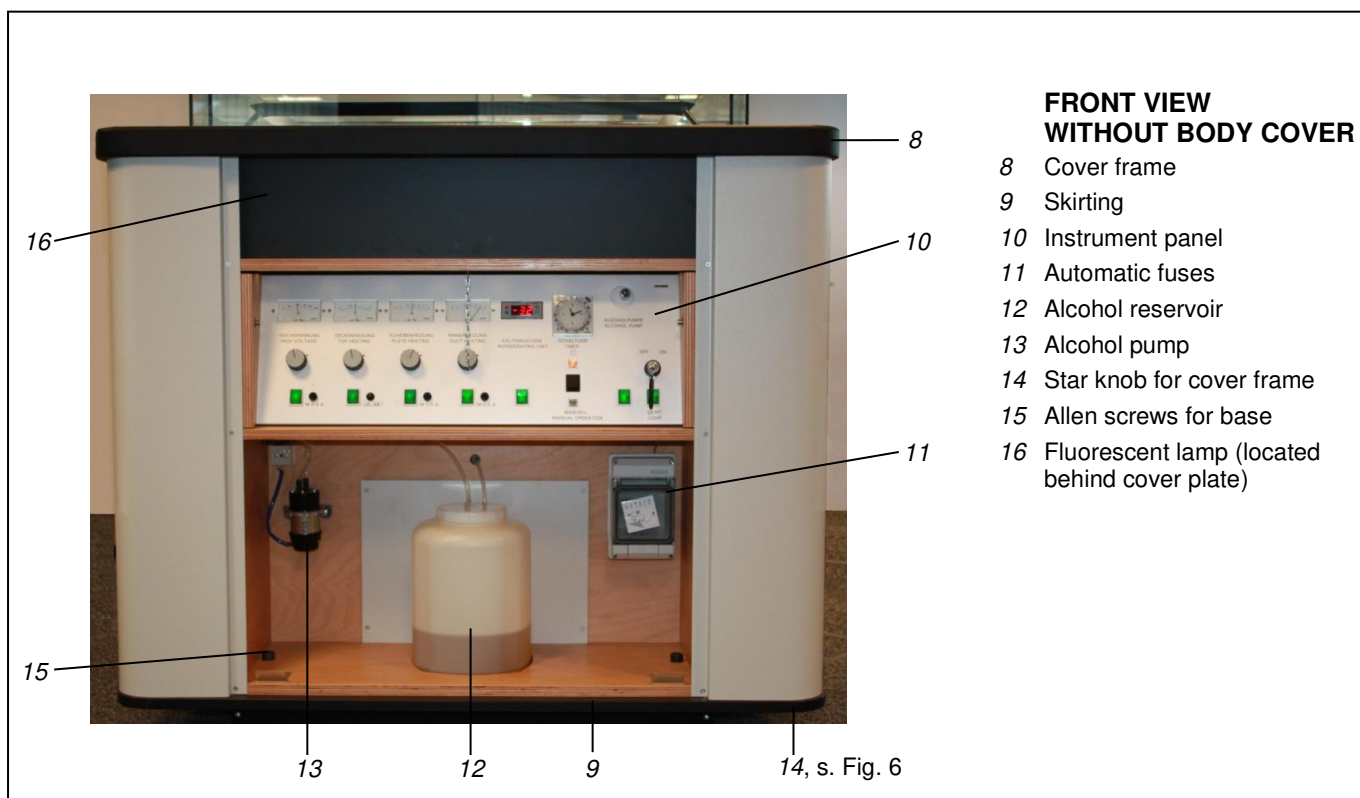
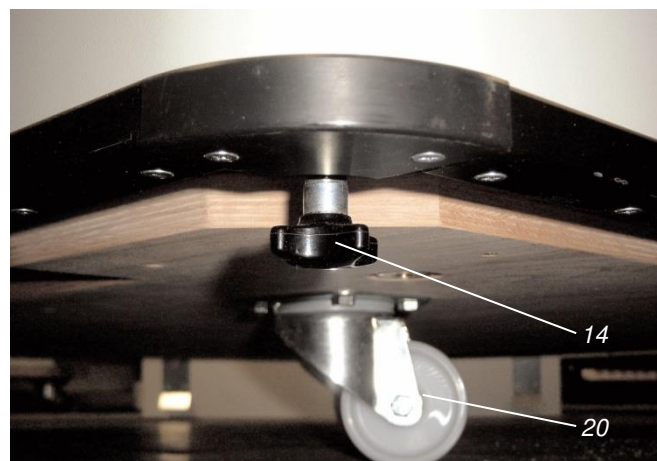

Fig. 3: Front view of the diffusion cloud chamber without body cover.
Fig. 6: View on the bottom side of the cloud chamber corner (without skirting).
To open any one of the 4 body covers, first unlock the lock of it then unhook the safety chain and lift the cover up and outwards. Do this to take off the front body cover (Fig. 3). The instrument panel (10) with the operating elements can now be seen. The electrical equipment is situated behind this instrument panel. The alcohol reservoir (12) stands on the bottom of the compartment, the membrane pump for the pumping of alcohol (13) is higher up to the left of it and a housing that holds three automatic fuses (11) is higher up to the right of it.
If possible, install the chamber in a room darkened to a great extent or one that can be darkened. The floor on which it is to stand must have an appropriate load-bearing capacity and must be so stable that the chamber is not subject to vibrations (concrete and carpet). Take off the skirting (9) and push the instrument to the planned site on the free-standing swivel castors (20, Fig. 6). Turn the adjustable levelling Allen screws (15, Fig. 3) to lift the instrument and, using the spirit level supplied, bring it to the horizontal position.
The replacement of fluorescent lamps (16) can be easily carried out after removal of the cover frame (8, Fig. 3). To do this, undo the 4 star knobs (14, Fig. 6). After taking the cover frame off and undoing the knurled thumb screws, take out the black-lacquered covering sheet. The fluorescent lamps are now freely accessible. Only carry out this work when the chamber is without current (**unplug the mains plug**).